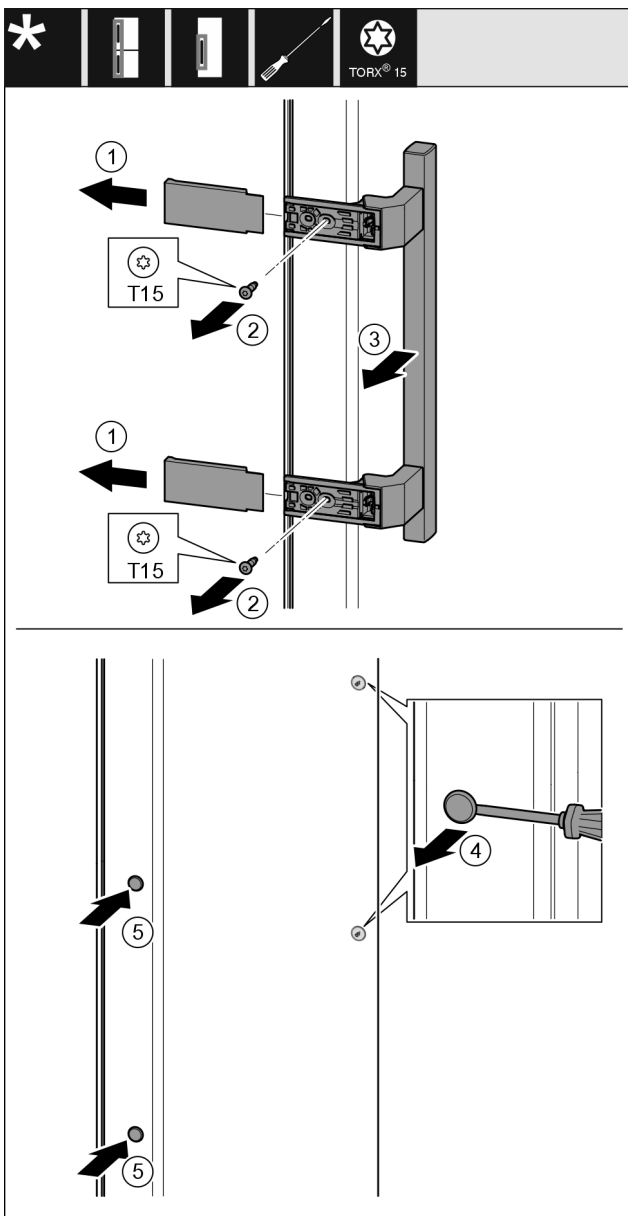

Fig. 19
- Remove the cover Fig. 19 (1).
- Unscrew screws Fig. 19 (2) with screwdriver.
- Remove the handle Fig. 19 (3).
- Use a slotted screwdriver to lift the side plug Fig. 19 (4) carefully and pull it out.
- Re-insert the plug Fig. 19 (5) on the other side.